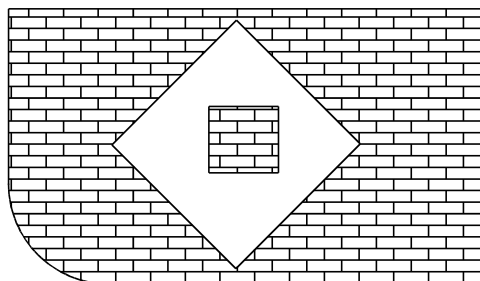

Figure 15.1: Hatching using the Normal hatching type
3. Toggle Normal on to alternate hatching within defined boundaries, toggle OutMost on to hatch only the first boundary, or toggle Ignore on to hatch within the outermost boundary and ignore all other boundaries (see Figures 15.1, 15.2, and 15.3 for examples).